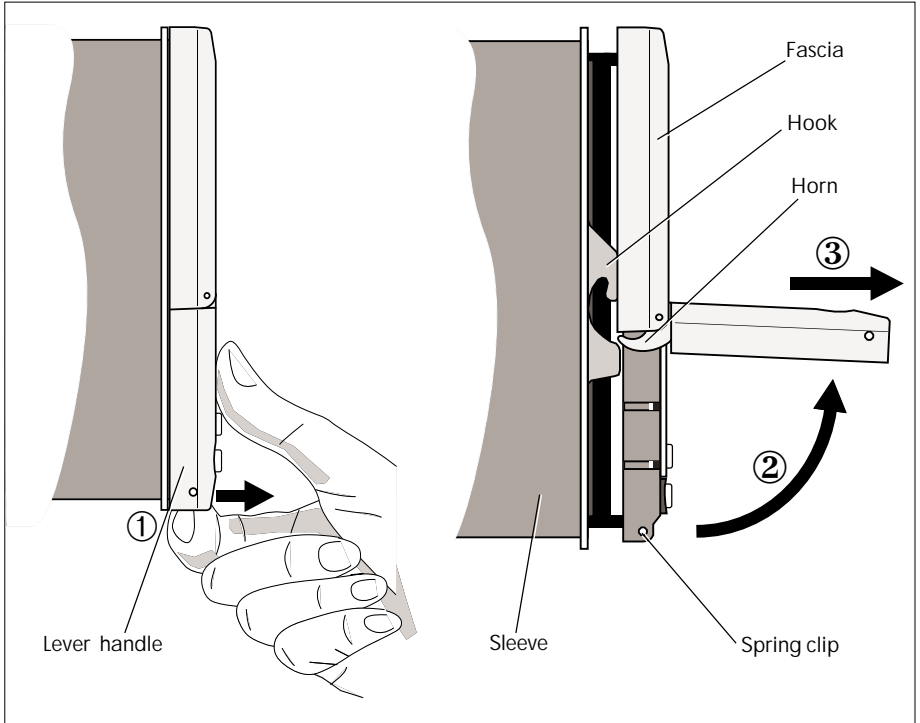

Figure 2-9 Withdrawing the unit from the sleeve
- The fascia lever handle must be snapped completely shut to lock the unit in its sleeve and ensure adequate fascia-to-sleeve sealing. See Figure 2-9 in §3.5.
See Figure 2-9. To unlock the unit, pull the bottom of the lever handle away from the mounting panel to release it from its spring clips (1), then swing the handle upwards (2) to a nearly horizontal position. This action levers the unit out of its sleeve by about 1cm. Keeping your thumb on the front panel during this operation — see figure — makes it easier and more controllable. Withdraw the unit completely by steadily pulling on the lever handle (3).
See Figure 2-9. Insert the unit into the sleeve, engaging the grooves along the upper and lower plastic guides with the sleeve guides. Slide the unit almost completely into the sleeve until the fascia meets the sleeve hook. Then raise the lever handle and push the unit further into the sleeve to engage the horn at the end of the handle with the sleeve hook. Complete the operation by closing the lever handle and snapping it shut onto its spring clips. Note that a proper IP65 seal will not be established between the unit and sleeve unless this is done.